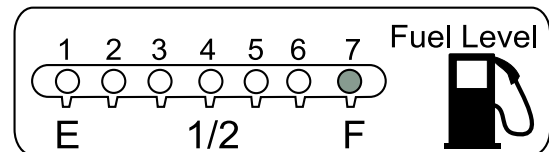

Figure 12. Fuel Gauge
3. Read the fuel gauge status LEDs (Figure 12) on the control panel and determine if the fuel level is low. Reference Table 11 for LED fuel gauge level indication.